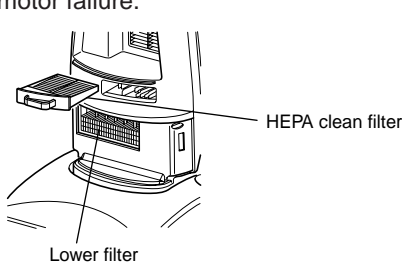

Fig.20
***HEPA clean filter (Fig. 20)**